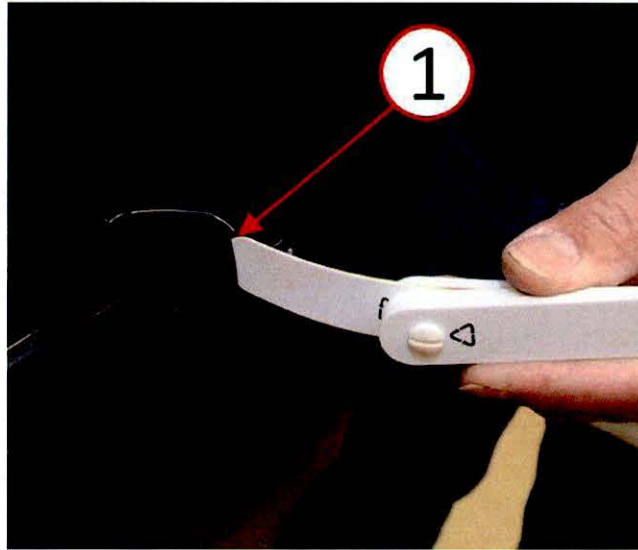

Fig. 9 Clearance Check
10. Using a feeler gage or equivalent, verify whether the handle to cap gap is 1.0 - 1.5 mm (0.04 - 0.06 in.) (Fig. 9).